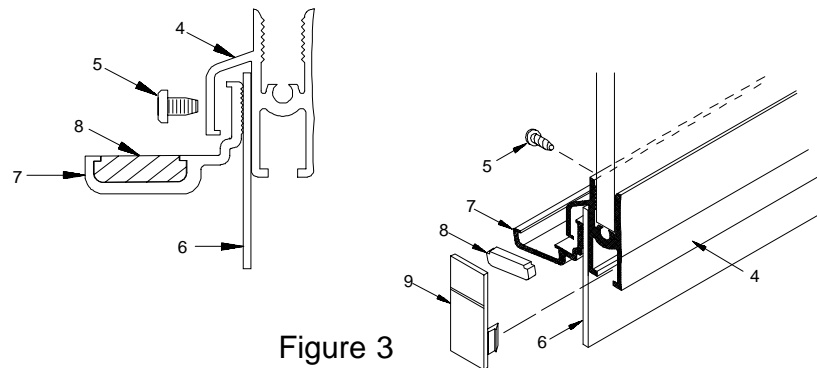

Figure 3
3. Apply bottom glazing vinyl (3) to the bottom of the glass. Hold bottom rail (4) in place against the bottom glazing channel and drive the bottom rail in place on the glass using the glazing block and a heavy steel hammer. Secure hinge rail to bottom rail using one #8 x 1 1/2" FH SMS screw. Start three #6 x 1/4" SMS B screws (5) into the bottom rail. Insert the splash vinyl (6) and the drip trough (7) into the bottom rail. Splash vinyl should flush off with latch end of bottom rail and butt to offset of the hinge rail at the other end. Flush-off drip trough with notchback on bottom rail at latch side. Push drip trough as far up as possible on latch side and as low as possible on hinge side and secure by tightening the three #6 x 1/4" SMS B screws (5).
4. Insert the drip plug (8) into the end of the drip trough at the handle side. Water should now drain back into the shower when the door is open. Insert the bottom rail end cap (9) in the end of the bottom rail (4) See Figure 3.